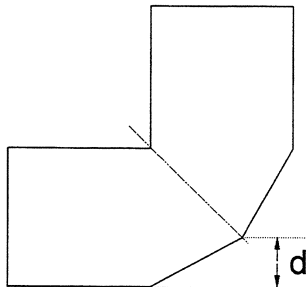

Fig. 4.2 The optimizable parameter d .
- 1 Define the optimizable parameter d as shown in Fig. 4.2.
For the bend2 tutorial example, we have only one parameter to define, namely d as depicted in Fig. 4.2. We need to create a new project to represent an incremental change in the parameter d . Such a project has already been set up and is provided as part of this example in the directory “bend21.pjt” The nominal project and the incremental change project represent two distinct values of the parameter d .
Parameter Name is an arbitrary ASCII string of no more than 32 characters. We choose the name "d" to identify the parameter depicted in Fig. 4.2.